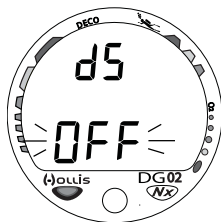

Fig. 30 - Set Deep Stop
- While the Surface Sequence is scrolling, depress the button until the Set Deep Stop screen appears with the graphic dS, and Set Point flashing (Fig. 30), then release the button; or when the screen appears after having set Wet Activation.